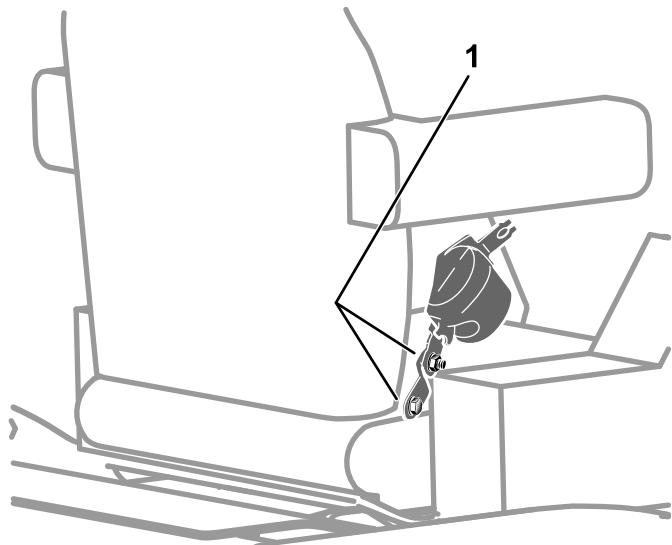

Figure 119
2. Check that the bolts and nuts that attach the seat-belt retractor and buckle to the seat are torqued to 47 to 61 N·m (35 to 45 in-lb); refer to Figure 119.